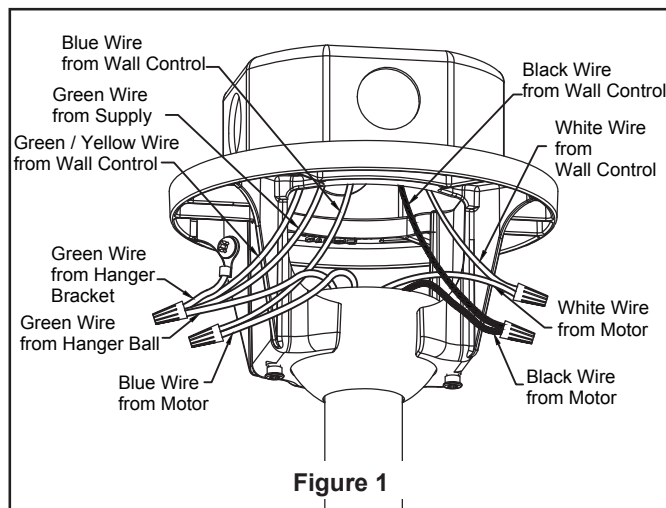

**Figure 3**
1. Securely attach the hanger bracket to the outlet box using the outlet box screws and washers supplied with the outlet box (Figure 3).
- 5 Secure the wall-mounted control to the outlet box with two screws provided. Then, the face plate attaches the wall control with two painted screws. (Figure 3)